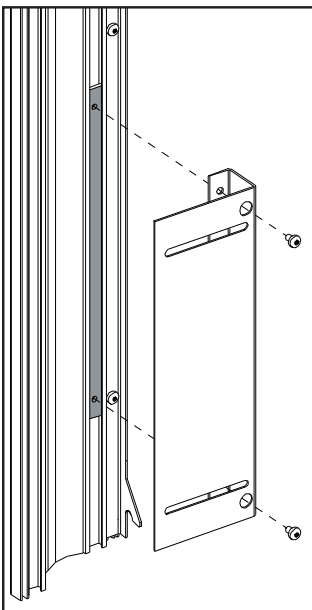

Figure 64: Installing Mounting Bracket.
10. Fasten a mounting bracket to each of the four (4) mounting bracket backs using two (2) #8 T-20 screws (see Figure 64). They should be tight enough that they hold together but loose enough to slide them in the slots.